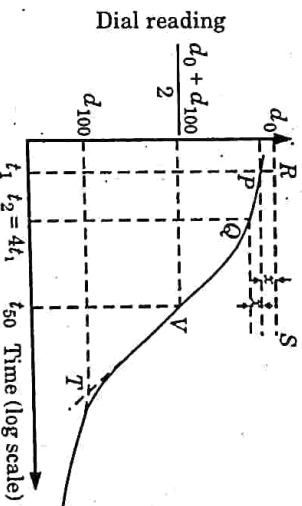

Fig. 3.16.1. Logarithm-of-time method for determination of C_v
1. Plot the dial readings for sample deformation for a given load increment against time on semi log graph paper as shown in Fig. 3.16.1.